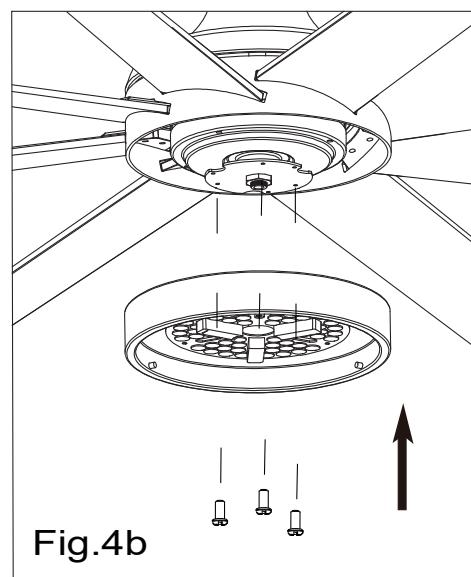

Fig.4b
- Align the light kit hole with the connecting piece and lock the screw. (Fig.4b)